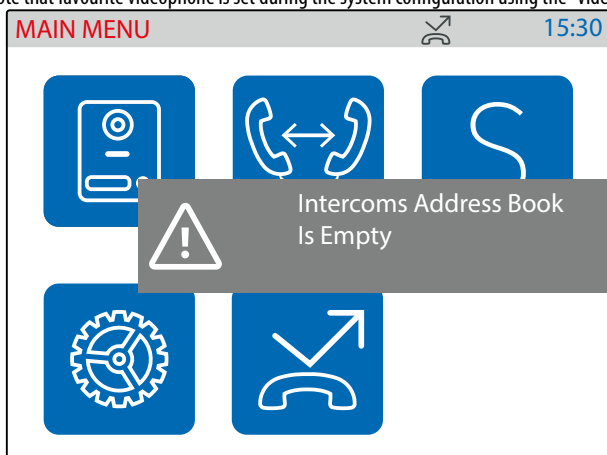

Fig. 47 Empty "Intercoms Address Book"
- By pressing the **0** button, if the "Intercoms Address Book" is not empty (Fig. 47), will start a intercommunicating call with the favourite intercom*.
* If the panel address book includes one indoor station only, tapping on the icon launches immediately the call to that videophone (Fig. 47 on page 26).